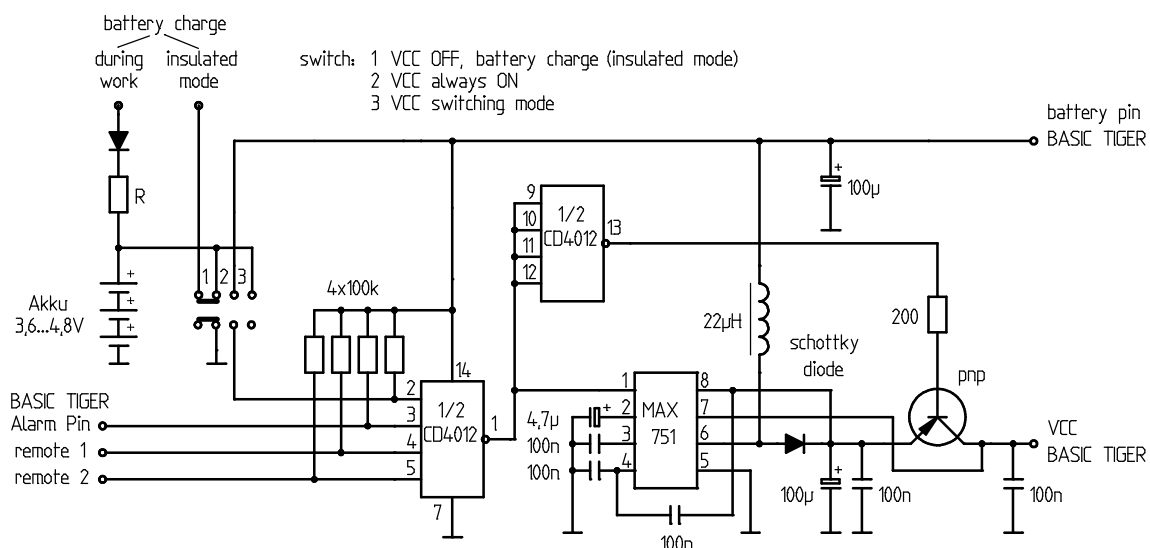

Fig. 5 A battery regulation circuit with comfortable control possibilities
- The relay gets its supply voltage via two diodes, either from the battery, if the Plug & Play-Lab is switched off or directly from the VCC of the Plug & Play-Lab, when it is switched on. The ground connection of the relay is switched by the alarm output of the BASIC-Tiger through two NPN-transistors (alarm pin low -> VCC on). The key button at the input is used to start the circuit for the first time, as there is no low level at the alarm pin of the BASIC-Tiger when VCC is switched off. Following this initialisation the software takes over switching the VCC on and off. The sliding switch in the battery version has a similar function (figure 5). On every switching on the switch inevitably goes over the position in which the VCC is switched on.
If a BASIC-Tiger application is running with rechargeable batteries, a control circuit becomes necessary. Clearly a standard regulator can be inserted (e.g. 7805), the disadvantage being, that batteries with a nominal voltage above 7.5 V are needed. A better option is a step-up regulator, as described in the application note "Power supply concepts". In the following example a MAX751 with its special components (choke and Schottky diode) is used, which generates a regulated voltage of 5 V (up to 150 mA) from an unregulated 3.6 V. This regulator has an input (Pin 1), with which it can be set into sleep mode. Figure 5 shows the complete circuit, whose individual components are described as follows: